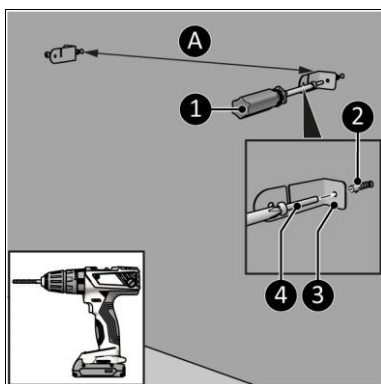
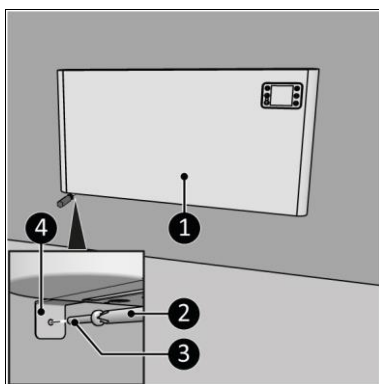

Figure 9
Figure 12
4. Drill two holes at least 610 mm above the floor and with a distance of (Figure 9, pos. A):
5. Place wall plugs (Figure 9, pos. 2).
6. Screw and tighten a left and a right bracket (Figure 9, pos. 3) to the wall with a large screw (Figure 9, pos. 4) using a Phillips screwdriver (Figure 9, pos. 1).
15. Screw and tighten the device brackets (Figure 12, pos. 4) with a large screw (Figure 12, pos. 3) to the wall (Figure 9, pos. 3) using a Phillips screwdriver (Figure 12, pos. 2).